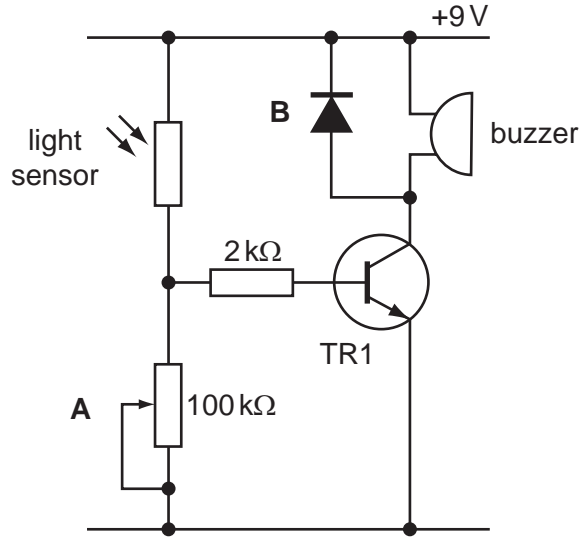

Fig. 6
- 11 Fig. 6 shows a circuit for a light-operated switch that will set off a buzzer when light falls on the sensor.
(b) (i) The circuit shown in Fig. 6 could be adapted to sense different environmental changes by using different sensors.
- (c) The circuit shown in Fig. 6 could be modified to make it more sensitive to smaller changes in light.